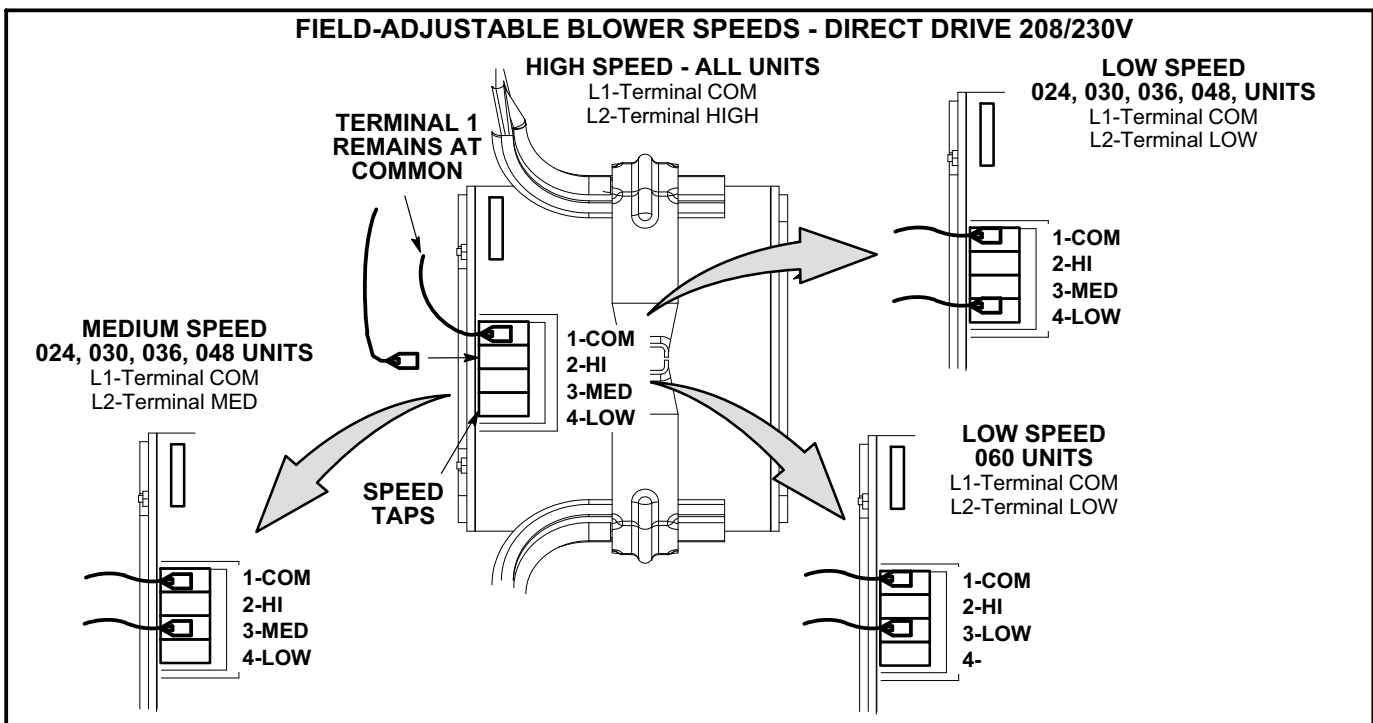

FIGURE 7
- 4- Use direct drive blower tables, the measured static pressure and the factory-set blower speed to determine CFM. If CFM is lower or higher than the design specified CFM, move the leads as shown in figure 7 for 208/230 volt units and figure 8 for 460/575 volt units.